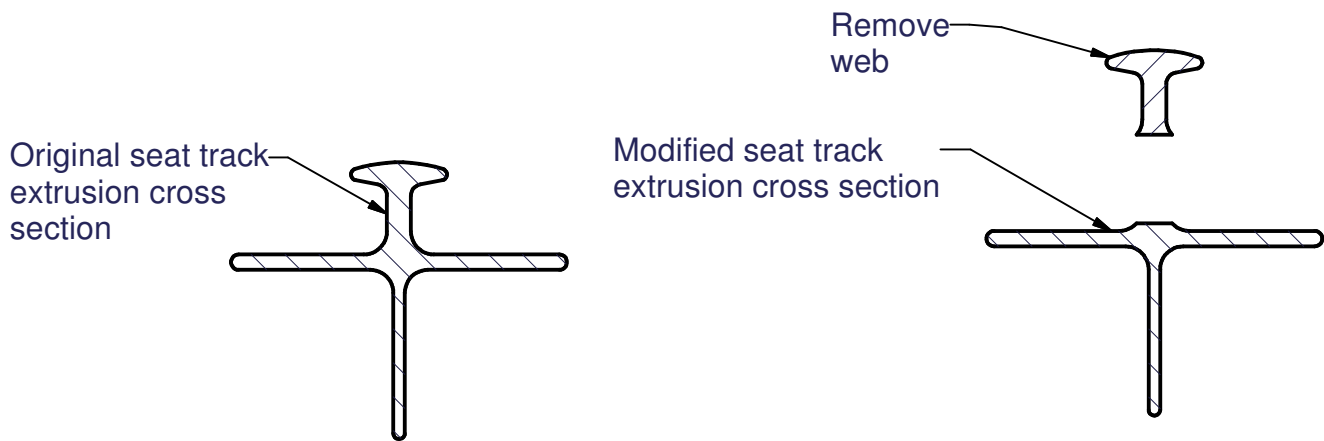

Figure 1: Original and modified seat track extrusion geometry.
6. Remove the top portion of the original seat track extrusion for both seat tracks to be replaced as shown in Figure 1. A router and/or any other type of cut-off tool may be used. Remove any remaining vertical web until the original extrusion is flat enough across the top so that the new seat track sits flat without rocking. Note: Take care to not allow any tool (cut-off tool, file, etc.) to cut into the horizontal flange of the seat track extrusion.